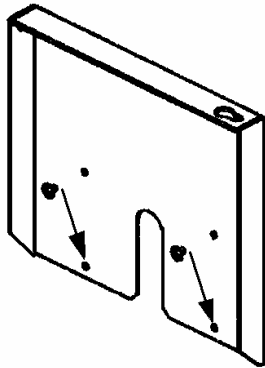

Figure 1A
2. Remove the two screws that mount the Side Plates R/H and L/H to the stand base. Reposition the Side Plates using the two lower holes so that the plates are raised from their packing position. Refer to [Figure 1A]. This is an important step as the feeder can not be leveled to the press unless this is done.